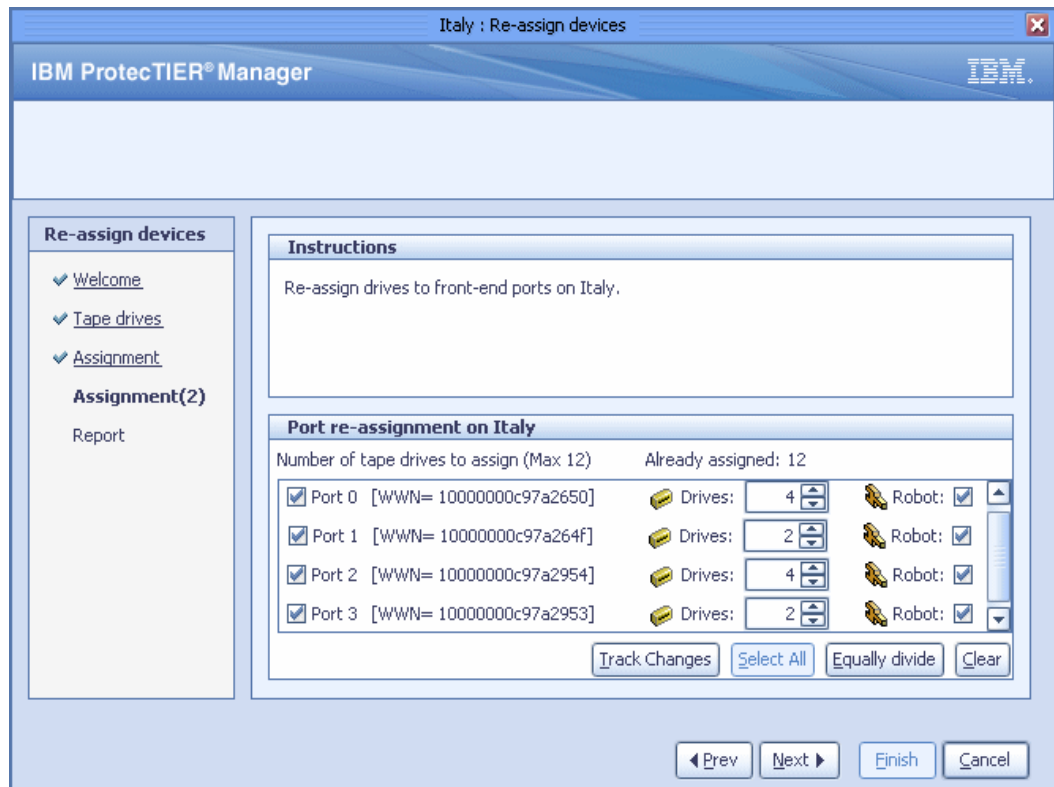

Figure 10-28 Re-assign devices: Assignment(2) window
Click **Next**. If a second node exists in the cluster, the Assignment(2) window opens (Figure 10-28).